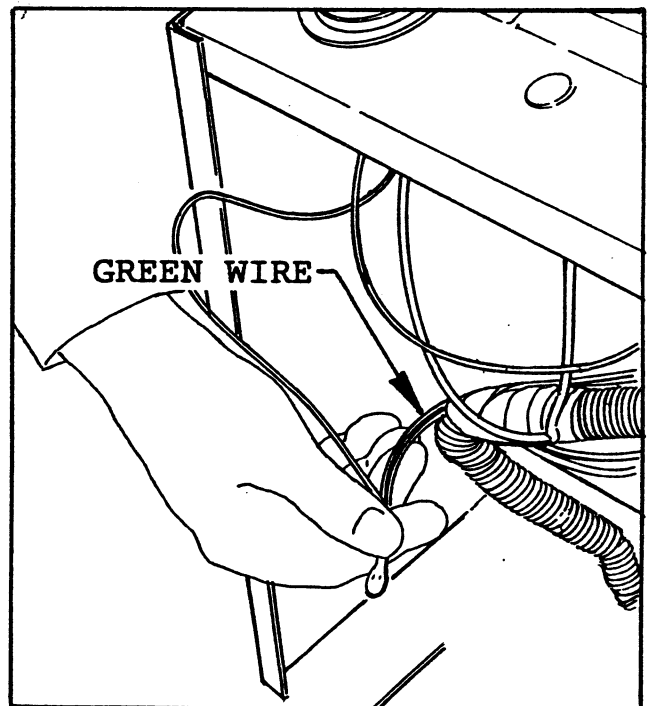

FIG. 7
- Remove the back panel of the Vehicle console and route the power cable to the inside of the console. Note the Vehicle wiring harness shown in FIG. 7.